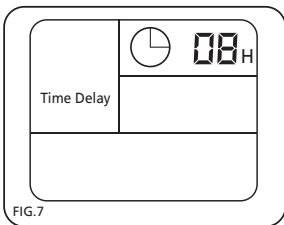

FIG.7
- Press SELECT and then press SELECT again until TIME DELAY begins to flash (fig.7).